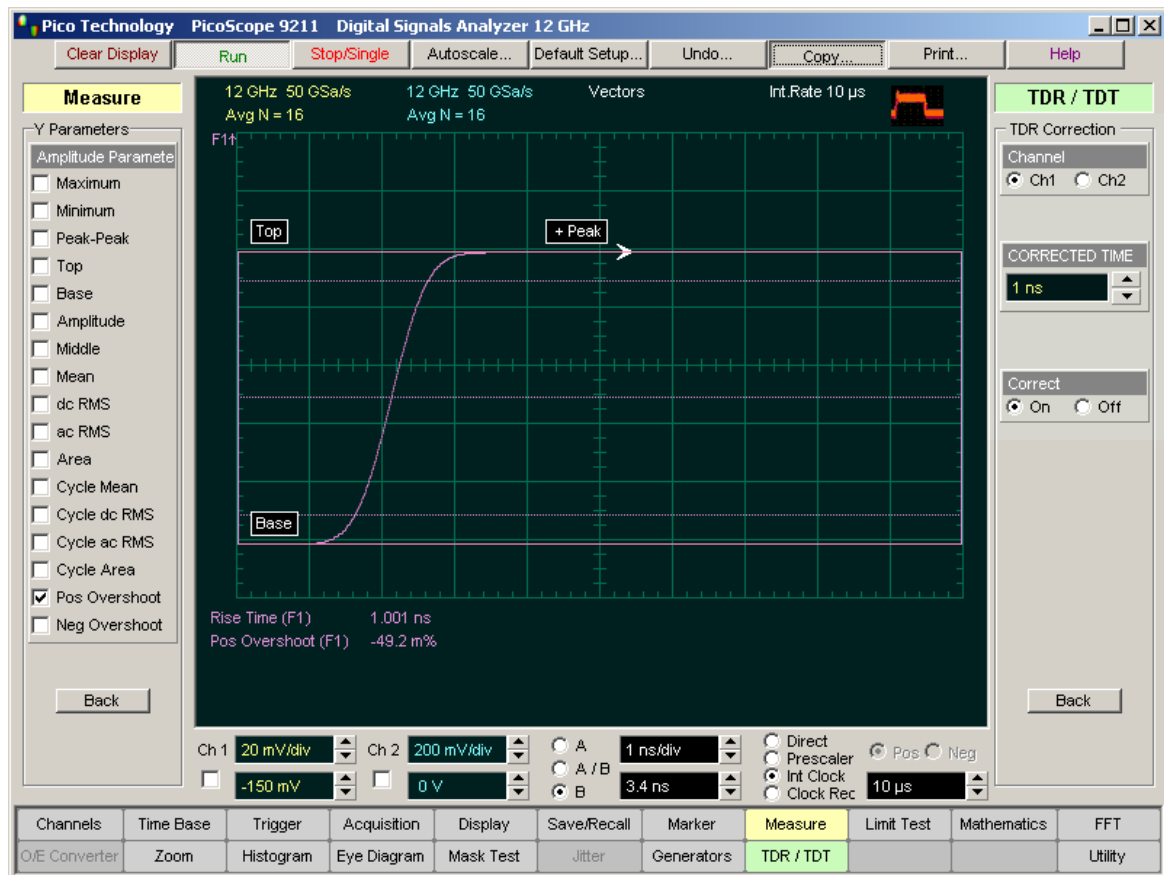

Figure 2
14. From the X Parameters... menu select Rise Time, and from the Y Parameters... menu select Pos Overshoot. See Figure 2.